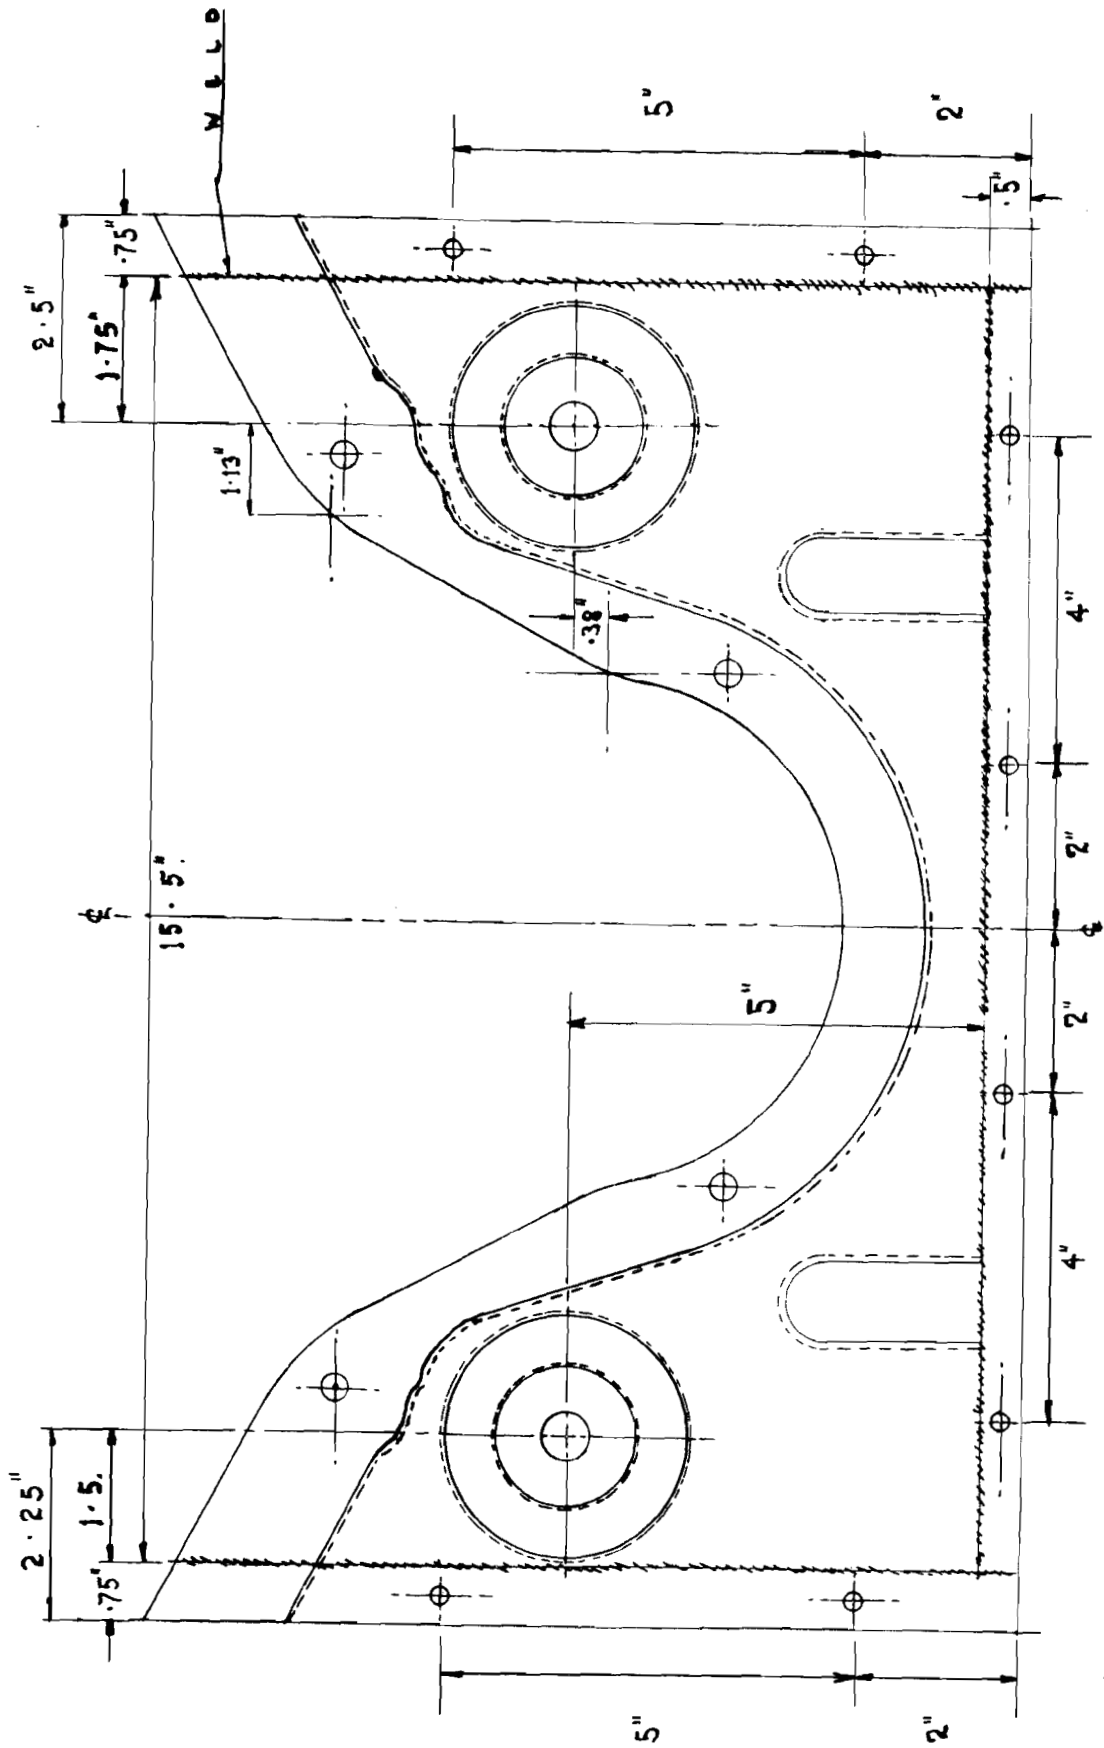

Fig. 8. Description of alterations to floor for fitting Overdrive Unit.
14. To facilitate the entry of the gearbox and overdrive assembly into the chassis, a portion of the floor pressing should be cut out, as indicated in Fig. 8, and then extension pieces of equivalent gauge plate butt welded on to the three sides shown.